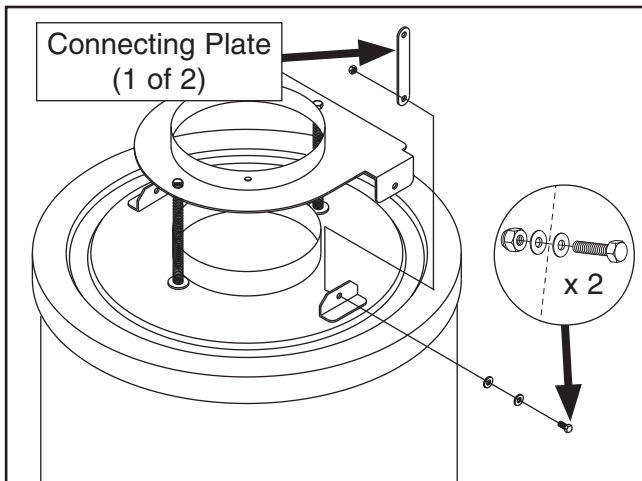

Figure 23. Installing drum lid connecting plates on drum lid.
22. Install drum lid connecting plates with (2) $\frac{3}{8}$ "-16 x 1" hex bolts, (4) $\frac{3}{8}$ " flat washers, and (2) $\frac{3}{8}$ "-16 lock nuts (see **Figure 23**).